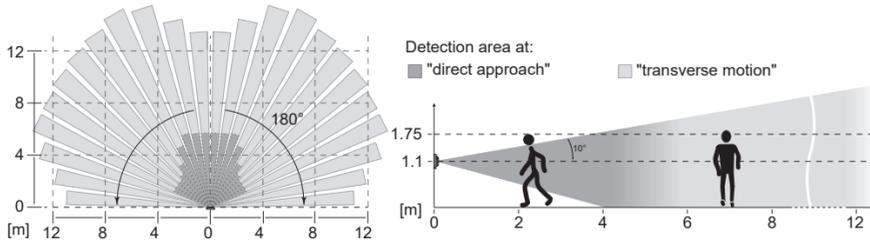

Fig. 6: Detection area of the motion detector for installation height 1.1 m
■ Avoid sources of interference in the detection area (Fig. 6 and 7). Sources of interference, e.g. heating elements, ventilation systems, air conditioners and lamps that are cooling down can cause undesired switching (Fig. 4).